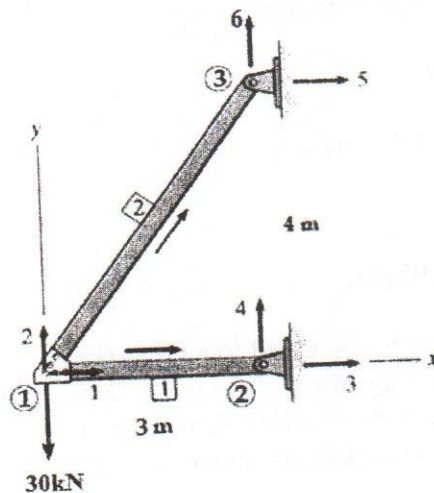

Fig.4
14. Analyze the pin-jointed structure shown in Fig.4 by Stiffness matrix method. The area of each member is  $1000 \text{ mm}^2$ . Take  $E=200 \text{ kN/mm}^2$